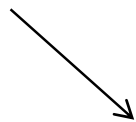

Fig 7
2. Locate the "dimple" in the depression in the middle of the truck bed. Using the 3 1/2" hole saw, cut a hole in the location shown in Figure 7 below. If there are no dimples in your bed, measure from the rear of the bed forward 46-3/8". Find the center of the bed by measuring between the fender wells or a weld seam that is visible on both sides of the bed. Drill a 3-1/2" hole at this location.
5. Once the REESE® Elite™ Series Gooseneck Hitch has been loosely assembled, locate the collar in the 3 ½" hole that was cut. See Figure 7.